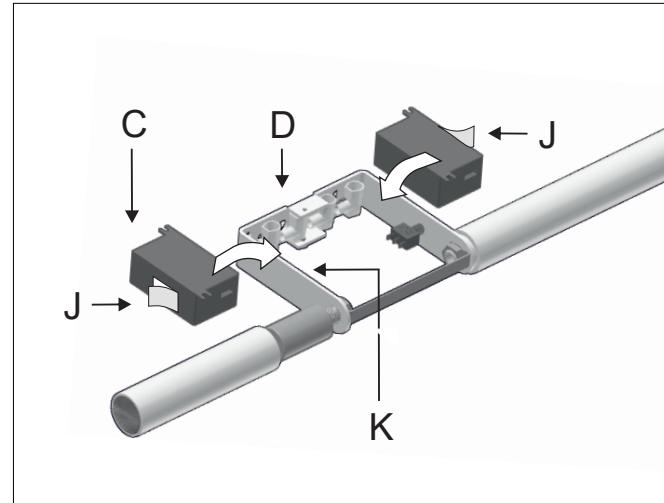

Figure 5
- 5 - Remove the protector from the double-faced adhesive tape [J] and fix the drivers [C] to interior the sides [K] of the mounting bracket [D]. Try to leave them vertically centered so that the drivers do not protrude from the mounting brackets. Figure 5.